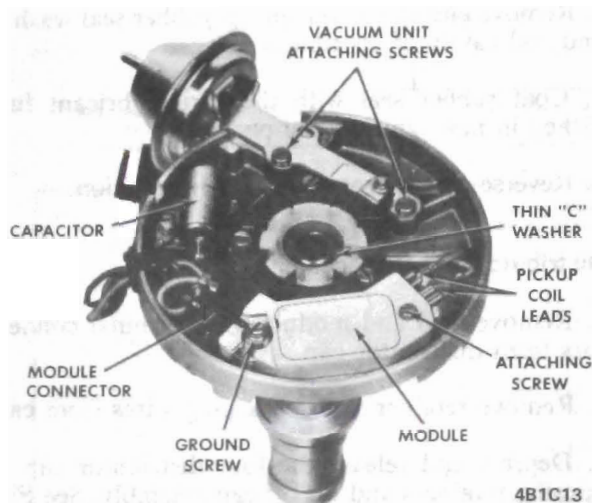

Figure 1C-13 H.E.I. Distributor Housing
pull advance unit outward, rotate and disengage operating rod from tang. See Figure 1C-13.
3. Remove two screws and module from distributor housing. See Figure 1C-13.